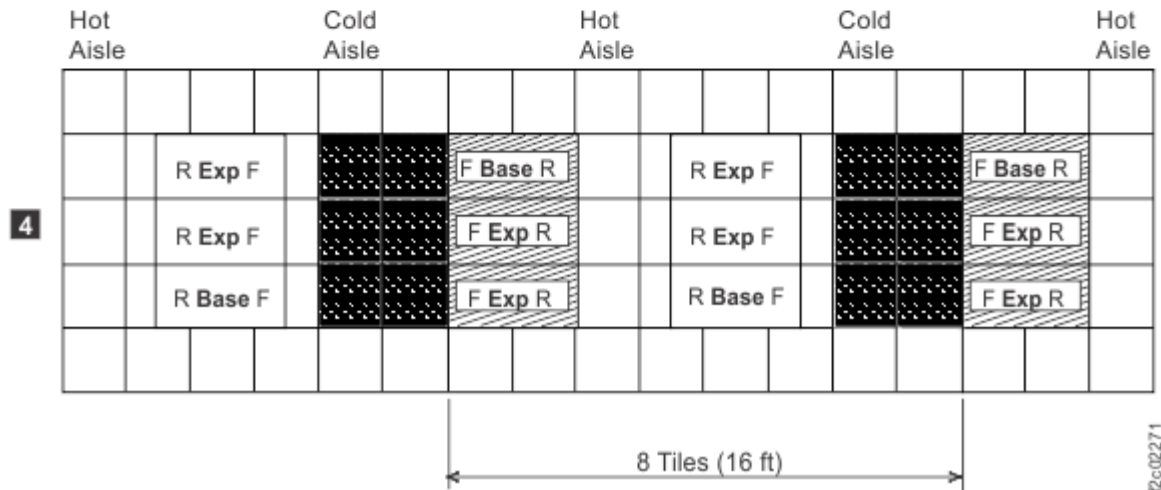

Figure 20. Typical rack and perforated tile locations for hot and cold aisles
- a. For stand-alone base frames, install two fully perforated tiles in front of each base frame, as shown in Figure 20 on page 116 in the single-machine examples (**1** and **2** in the figure).
- b. For a row of storage systems, install a row of perforated tiles in front of the storage systems as shown in Figure 20 on page 116 (**3** in the figure).
- c. For groupings of storage systems, where a hot aisle/cold aisle layout is used, use a cold aisle row of perforated tiles in front of all storage systems. An example of a possible minimal arrangement is shown in Figure 20 on page 116 (**4** in the figure).
Note: Keep in mind that the example represented in Figure 20 on page 116 meets service clearance requirements. However, floor loading requirements might require a wider hot aisle to provide up to 30 inches of non-overlapping clearance (for total of 60 inches between the rear side of the frames on either side of the aisle.)